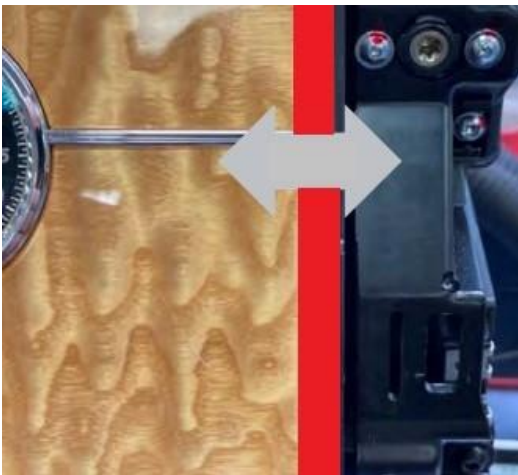

Figure 4
- **HINT:** Referring to Figures 4 and 5, if there is a large gap on one side of the fascia panel and a small gap on the opposing side or a report of clashing with driver fascia or clunking the operative should check to confirm the bearings of the unit have not displaced as shown in Figure 6